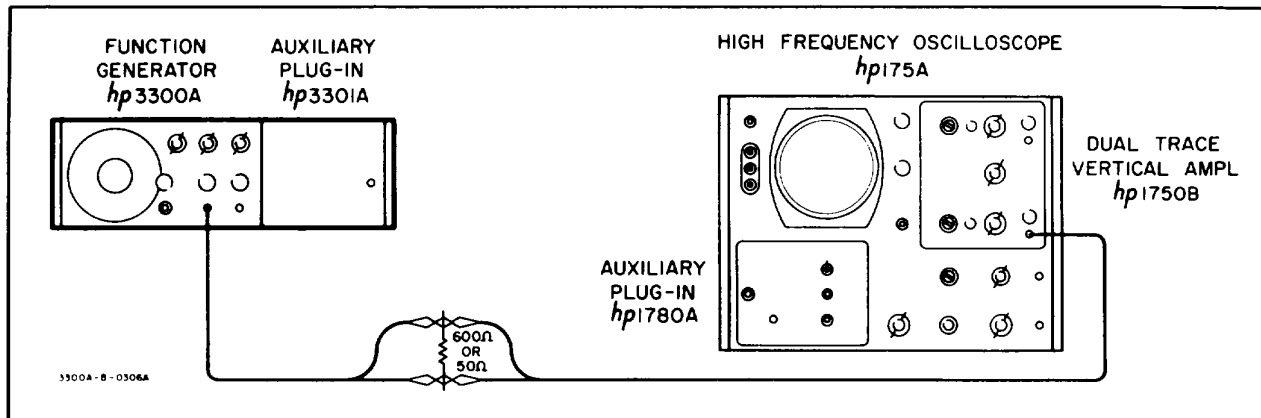

Figure 5-1. 600 ohm or 50 ohm Load Output Test Setup
- b. Connect OUTPUT of CHANNEL A and 600 ohm resistor as shown in Figure 5-1. Set the 3300A controls as follows: